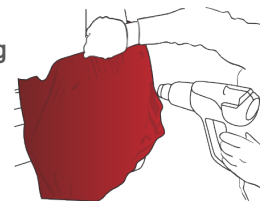

Figure 16
- After this operation, heat to a temperature ranging from 40 °C to 50 °C (from 104 °F to 122 °F) (from 30 °C to 40 °C (from 86 °F to 104 °F) for the HX45CA890B, HX45CA891B, HX45CA892B (FIG. 16) and stretch the film to eliminate all folds using the squeegee.